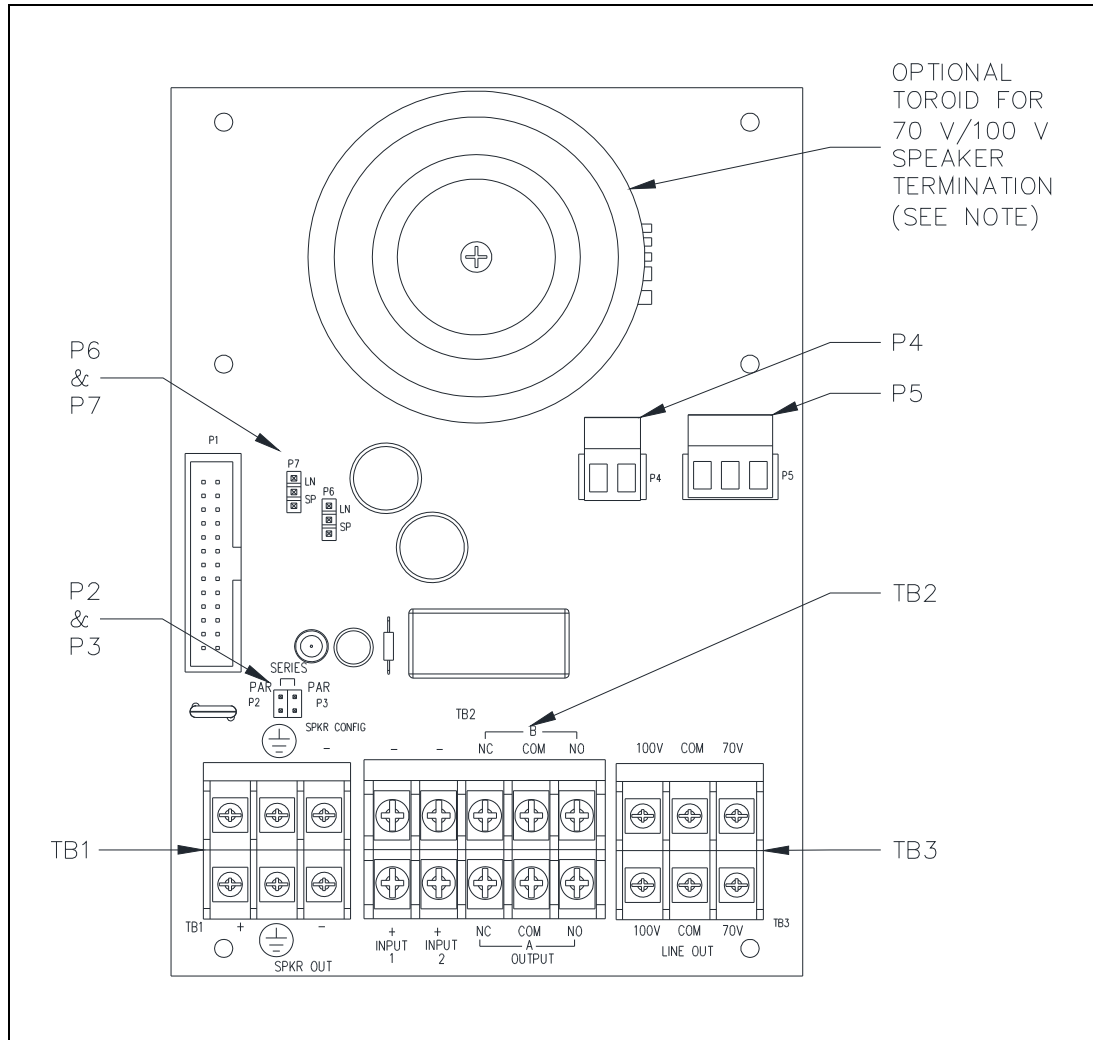
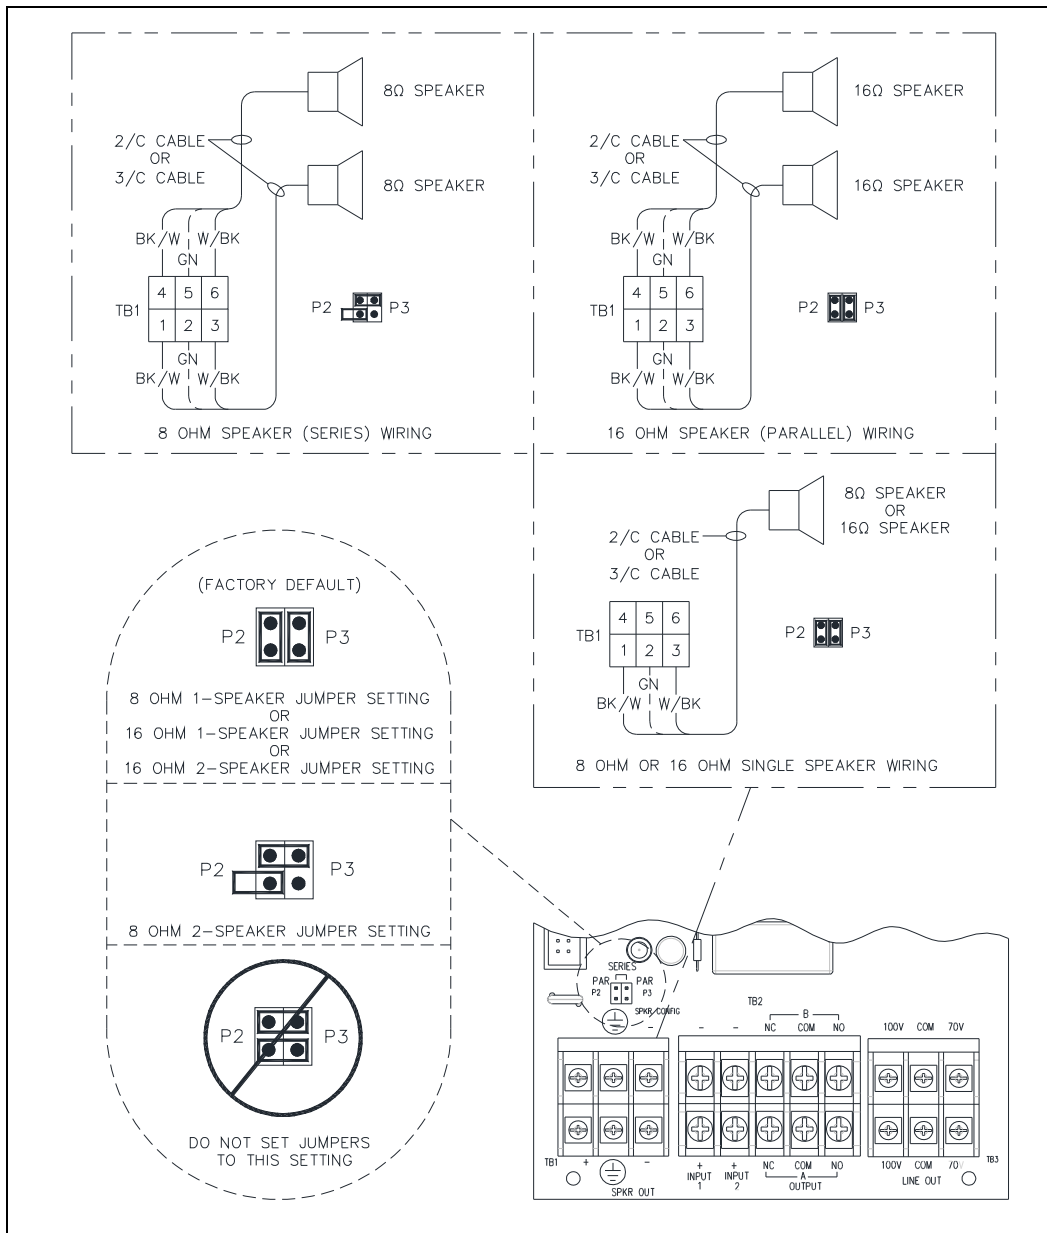
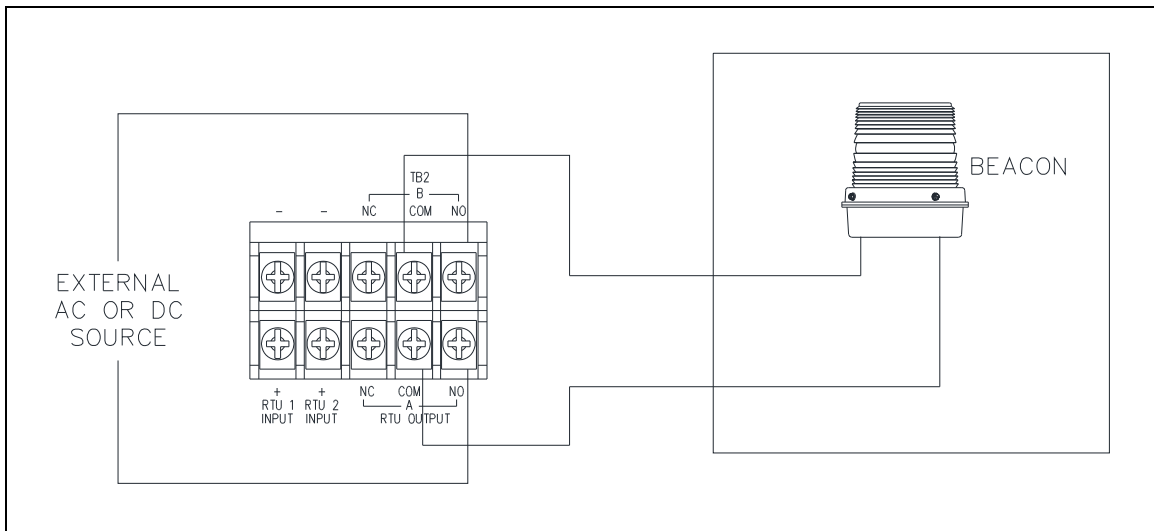

Figure 4. SP2 Termination PCBA (PoE Stations)
Figure 5. 8/16-ohm Speaker Impedance Configuration
Figure 6. RTU Output Wiring—TB2
5. Configure the speaker jumpers; P2 and P3, for the appropriate impedance for use with 8-ohm or 16-ohm speakers (see Figure 4 and Figure 5).
6. Configure the LN/SP jumpers P6 and P7 by placing both jumpers in the SP position (see Figure 4).
Terminal block TB3 permits connection of 70-volt and/or 100-volt speakers. All speakers must be wired in parallel (see Figure 4 and Table 2).
5. Configure the LN/SP jumpers P6 and P7 by placing both jumpers in the LN position (see Figure 4).
The termination PCBA contains two unsupervised auxiliary RTU inputs. Terminate the inputs at terminal block TB2 (see Figure 4).
A single output relay provides two form C contacts to switch external power to a beacon (see Figure 6). Terminate the output at terminal block TB2 on the termination PCBA (see Figure 4).
3. Connect the RTU output wires to terminal block TB2 (see Table 4 and Figure 6).